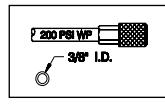

Fig.3
- Connect the tool to an air compressor using a 3/8" I.D. hose. Make sure the hose has a rated working pressure exceeding 200 PSI (13.8bar) and a female quick coupler. (See Fig. 3)